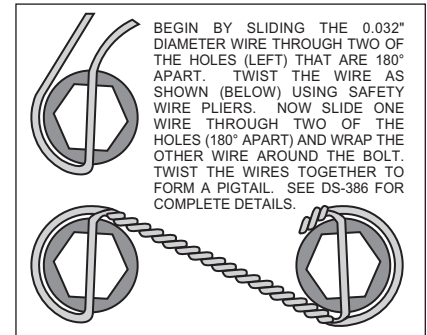

Figure 8. Safety Wire Diagram
- Determine that the appropriate snap ring style Green bearing has been installed on the axle. Remove snap ring from bearing and slide retainer (2) (full circle retainers only, "U" retainers can be installed later) and caliper mounting bracket assembly (1) onto axle and over bearing assembly. Reinstall snap ring (this can also be accomplished at the time of bearing installation on axle without the removal of the snap ring). Insert axle with caliper mounting bracket assembly into axle end. Align bracket (1) and retainer (2) with the five holes in the axle end and secure using the stock Original Equipment Manufacturer (OEM) bolts and nuts. Stock OEM hex nuts that retain the caliper mounting bracket assembly (1) and retainer (2) should be on the wheel side of the bracket. Apply red *Loctite*® 271 to the stock OEM bolt threads and torque to OEM specifications. Make sure the heads of the caliper mounting bracket assembly (1) insert nuts are FACING OUTWARD TOWARDS THE WHEEL.
- With the larger I.D. side of the rotor (4) facing away from the hat (3), bolt rotor (4) to hat (3) through the backside of the rotor using washers (5) and bolts (6). Torque bolts (6) in an alternating sequence to 103 **in-lb**. Safety wire bolts (6) using standard 0.032 inch diameter stainless steel safety wire as shown in Figure 8. Please refer to Wilwood's data sheet DS-386 (available at www.wilwood.org/ds386.pdf) for complete safety wire installation instructions.
- Align the correct hole pattern in the hat (3) with the stud pattern on the axle flange. **NOTE:** Some OEM and aftermarket axles come with stud sizes larger than 0.50" diameter. Verify stud size and have a qualified machine shop drill the hats to the correct size, if necessary. Slide the hat/rotor assembly (3 and 4) over the wheel studs covering the bracket kit assembly (1) and against the axle flange face. Check to be sure the hat seats squarely against the hub. Install a couple of lug nuts (finger tighten) to keep the rotor/hat assembly in place while continuing with the installation.